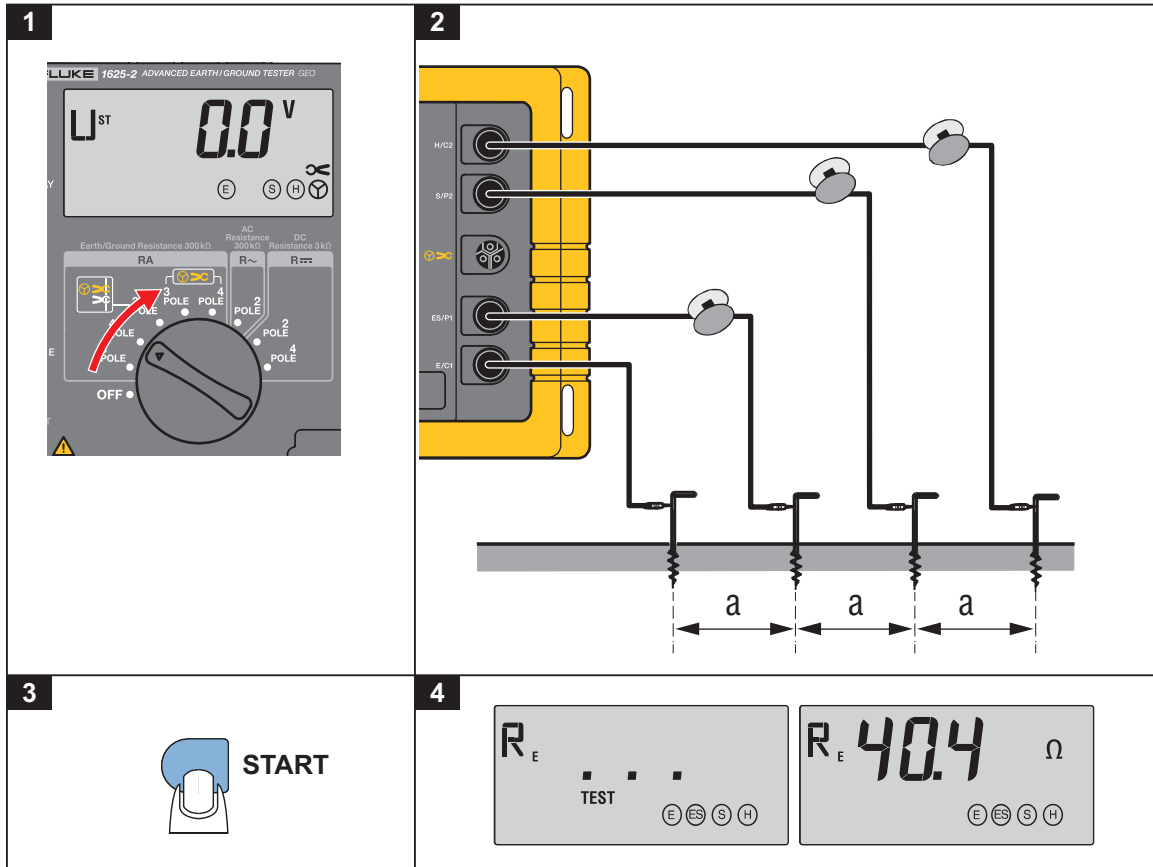

Figure 11. Measurement of Soil Resistivity
The soil resistivity is the geological and physical quantity for calculation and design of earthing systems. The measuring procedure shown in Figure 11 uses the method developed by Wenner (F. Wenner, A method of measuring earth resistivity; Bull. National Bureau of Standards, Bulletin 12 (4), Paper 258, S 478-496; 1915/16).